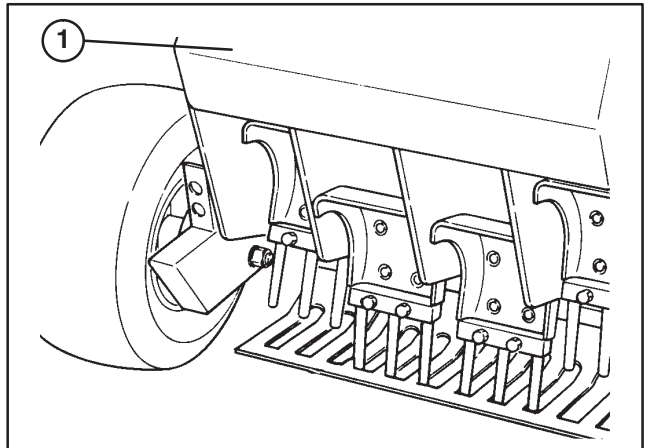

Figure 34
- A. Unlatch and remove coring head cover (Fig. 34).